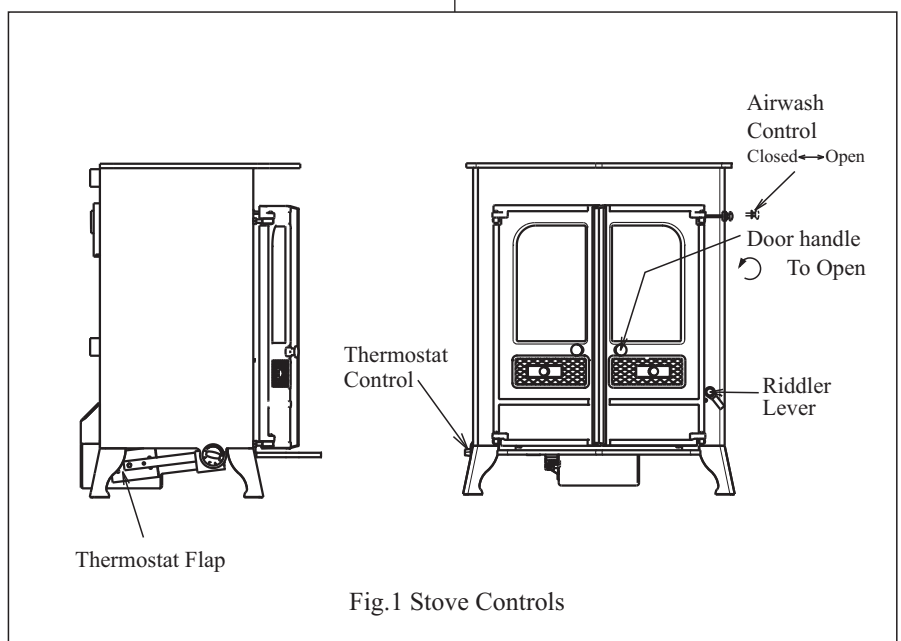

Fig.1 Stove Controls
Use the door opening and ashpan tool to open and close the doors. Turn the right-hand door knob anti-clockwise to open and clockwise to close.(see Fig.1)
fuel position as required. Place the paper, or fire lighters, and kindling on the grate and cover with a few small dry logs. Open the airwash and thermostat controls fully (see Fig. 1.) Light the paper or fire lighters. Close the doors until the fuel is well ignited then load with fuel. Once the fire is up to temperature the airwash system will begin to work, so allow the fire to become hot before adjusting the air controls to the required setting. A flue pipe thermometer is available which will help you to get the best from your stove.
The rate of burning and hence the output is regulated by the control knob on the side of the fire and the airwash control (see Fig.1).
- c) the thermostat flap is closed (beneath the stove on the left, see Fig.1.) and that it is not prevented from closing completely.